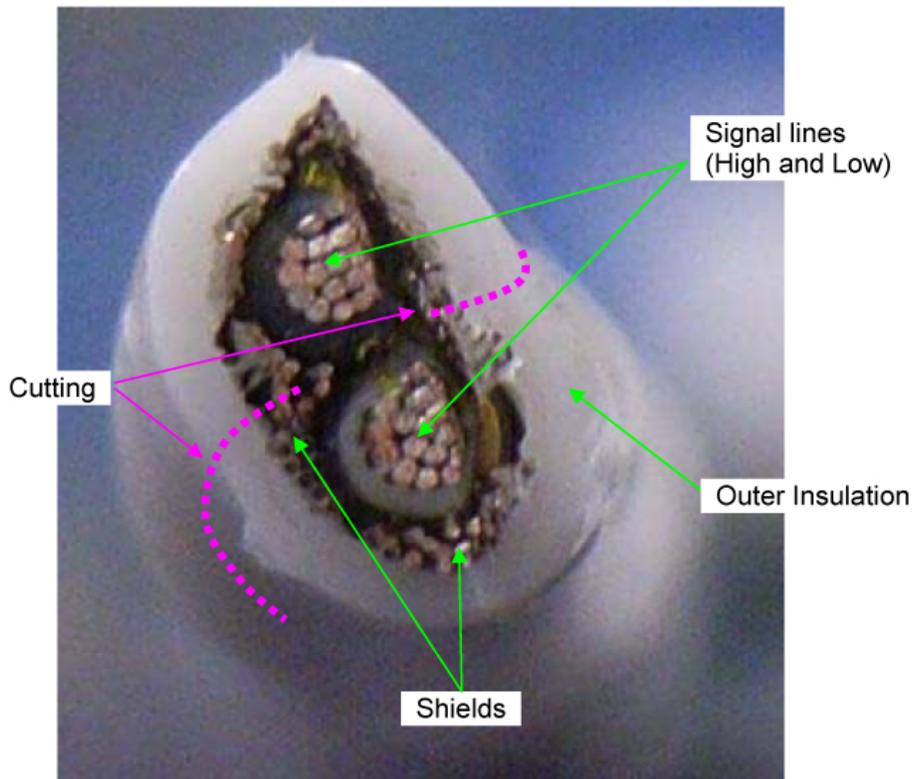

Figure 2. Cross Section of the Cut Line.
1.3.1 Cut Outer Insulation and Shields 10 mm (0.5 inch) along the dotted lines (pink colored) shown in Figures 2 and 3 (Wire Cutters, Pocket Knife).
Care must be taken not to damage thin harnesses routed on JPM structure. Examples of thin harnesses are shown in Figures 2 and 3.